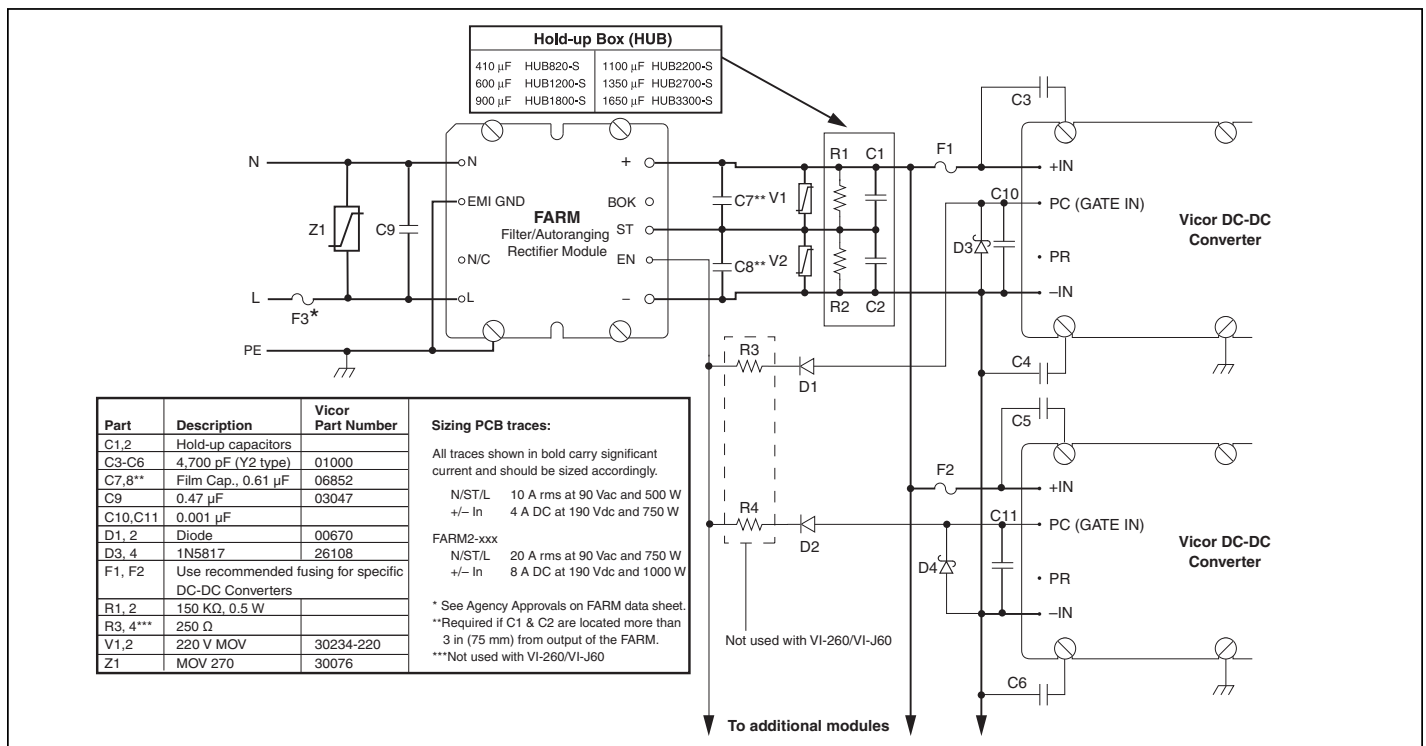

Figure 9 — Offline Power Supply Configuration
Strap (ST) Pin. In addition to input and output power pin connections, it is necessary to connect the Strap pin to the center junction of the series hold-up capacitors (C1, C2, see Fig. 9) for proper (autoranging) operation. Metal oxide varistors, V1 and V2 provide capacitor protection. The bleeder resistors (R1, R2, see Fig. 9) discharge the hold-up capacitors when power is switched off. Capacitors C7 and C8 are recommended if the hold-up capacitors are located more than 3 inches (75 mm) from the FARM output pins.
It should be noted that the series combination ($C1$, $C2$, see Fig. 9) requires each capacitor to be twice the calculated value, but the required voltage rating of each capacitor is reduced to 200 V. Allowable ripple voltage on the bus (or ripple current in the capacitors) may define the capacitance requirement. Consideration should be given to converter ripple rejection and resulting output ripple voltage.